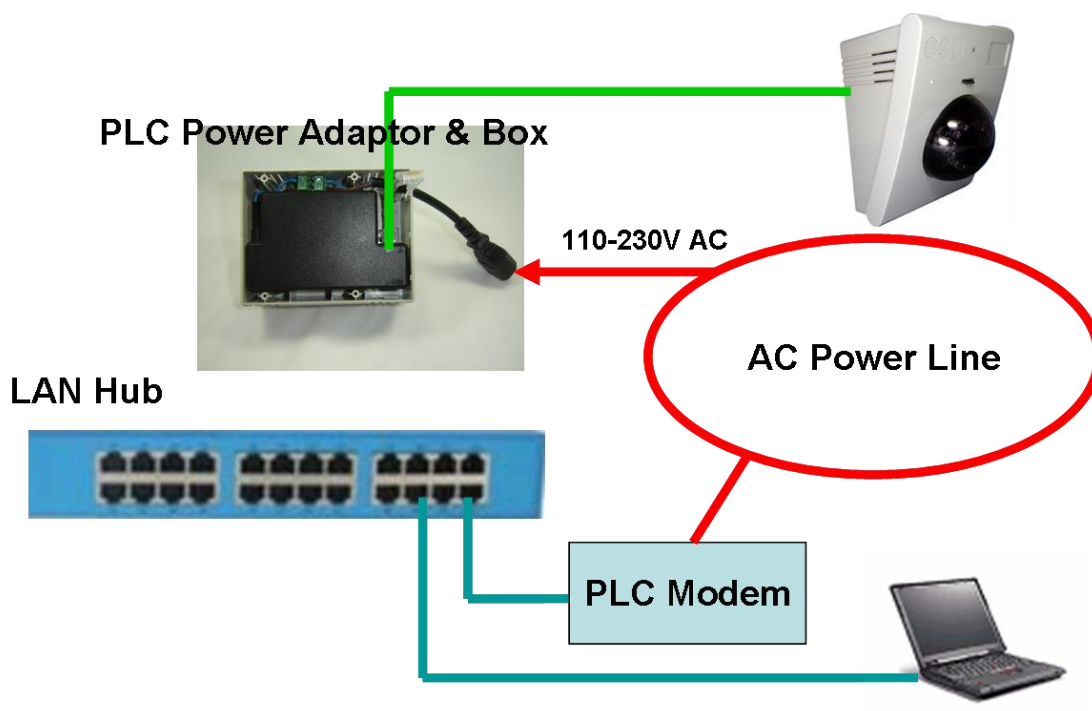

Figure 2-4. Connecting Network camera and PC using PLC Adaptor
- 2) If you are using the power adaptor with PLC, connect the network camera and PC as illustrated in Figure 2.4.